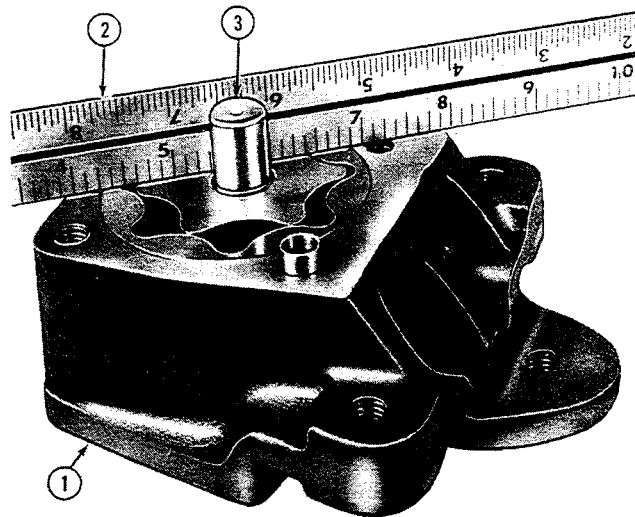

Figure 38
3. With the rotor and shaft assembly installed in the pump body, place a straight edge over the rotor and shaft assembly and the pump body. Measure the clearance between the straight edge and the inner rotor and shaft assembly and between the straight edge and the outer rotor, Figures 38 and 39. If the measurement is not within specifications, page 92, install a new rotor assembly.